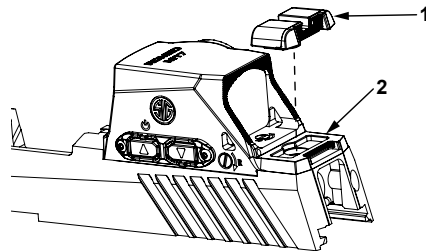

Figure 11. Install Rear Sight.
- Install rear sight (Figure 11, Item 1) to rear sight channel (Figure 11, Item 2).